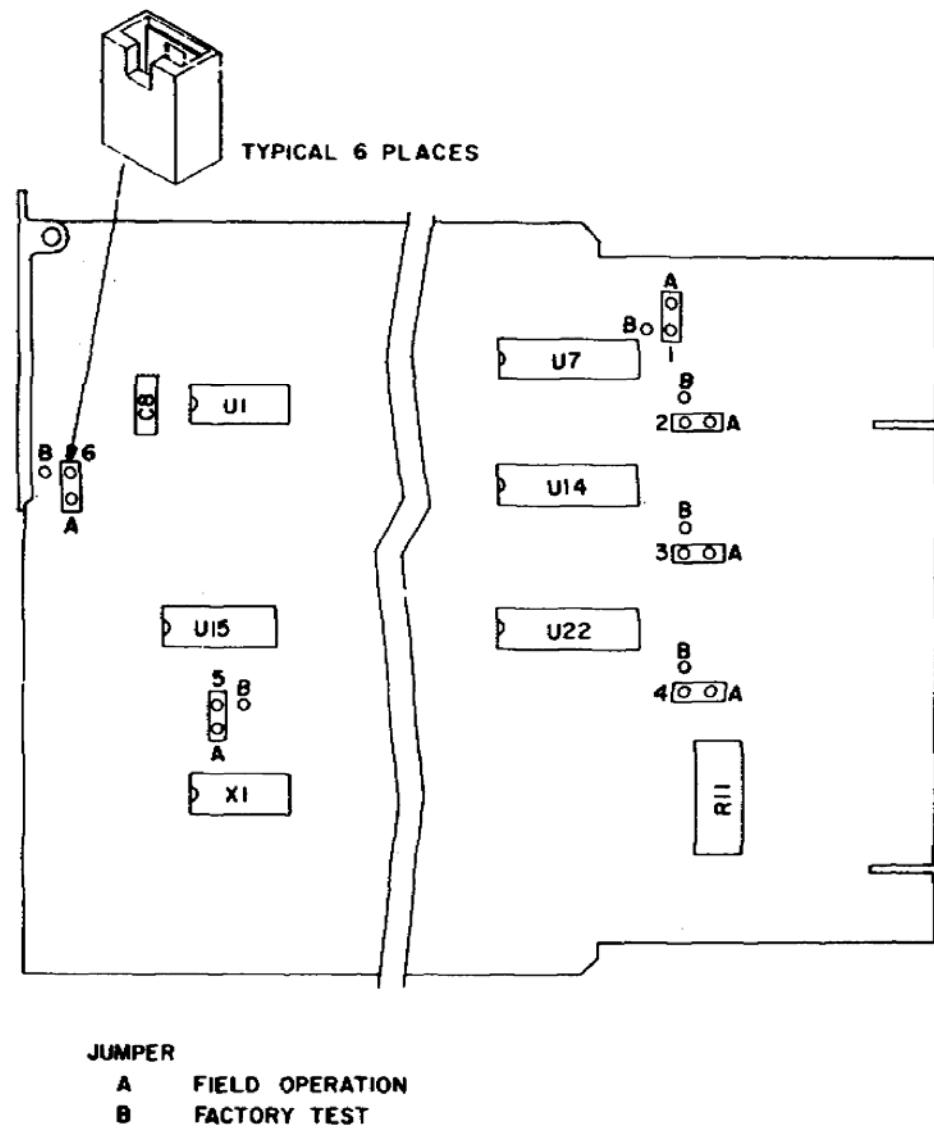

Figure 12. Shared Logic Module (A12) Strapping Options.
(1) Turn off power.
- (2) Remove the shared logic module (A12).
- (3) Move jumper strap 6 to B (see figure 12).